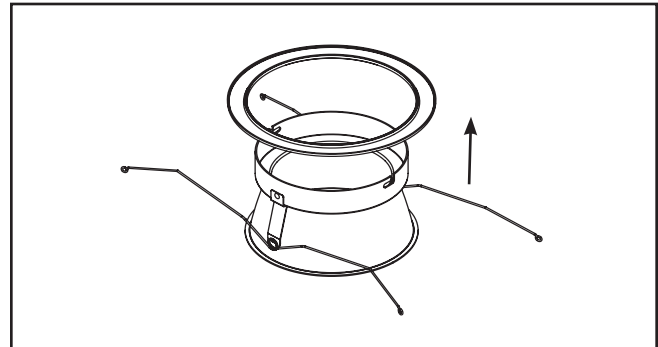

Figure 3.
1. Remove lower trim from protective packaging. Remove plastic and discard trim ring. Remove LED engine from protective packaging (Figure 3.).